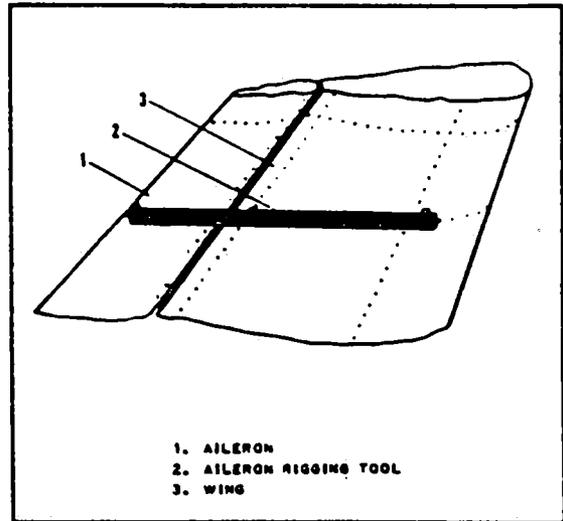

Figure 5-4. Installation of Aileron Rigging Tool
- 1. Place a modified straightedge, as shown in Figure 5-4, against the underside of the wing next to and outboard of the row of rivets at station 169 with the aft spacer even with the trailing edge of the aileron. (Do not place tool on rivets.) (This tool may be fabricated from dimensions given in Figure 5-18.)